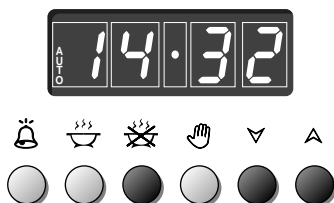

Fig. 10.6
2. Set the time you need the food to stop cooking by pushing the  button (the cooking time already added to the clock time will appear), and the  button (fig. 10.6); if you pass the desired time you can go back by pushing the  button.